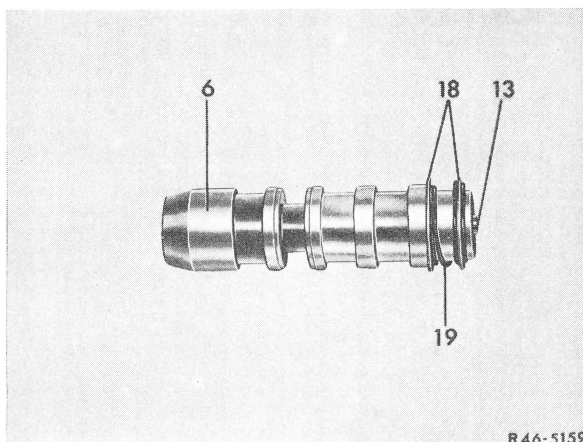

Fig. 7
7 Check reaction piston (12) and supporting bolt (13) in control valve (6) for easy running. If required, remove reaction piston after removing locking ring (16) and clean (Fig. 7, 8 and 9).